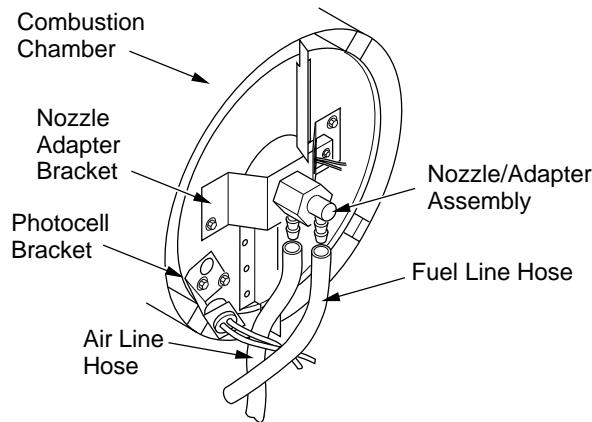
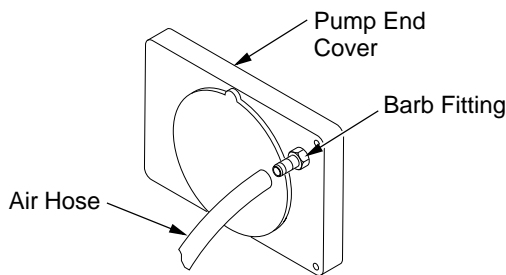

Figure 17 - Removing Air and Fuel Line Hoses (BY35CEH and BY70CEH Models Only)
Figure 22 - Air Hose to Barb Fitting
14. Replace photocell in photocell bracket. Route wires as shown in either Figure 17, 18, or 19, page 11.
3. Remove fuel and air line hoses from nozzle assembly (see Figure 17, 18 or 19).
4. Inspect fuel and air line hoses for cracks and/or holes. If fuel line hose is damaged, disconnect from nozzle adapter (see Figure 17, 18, or 19, page 11) and from fuel filter (see page 8). If air line hose is damaged, disconnect from nozzle adapter (see Figure 17, 18, or 19, page 11) and from barb fitting on pump end cover (see Figure 22).
5. Install new air and/or fuel line. Attach one end of air line hose to barb fitting on pump end cover (see Figure 22) and the other end to nozzle adapter (see Figure 17, 18, or 19, page 11). Attach one end of fuel line hose to fuel filter (see page 8) and the other end to nozzle adapter (see Figure 17, 18, or 19, page 11).
For BY35CEH and BY70CEH model heaters, route air and fuel lines approximately as shown in Figure 17, page 11.